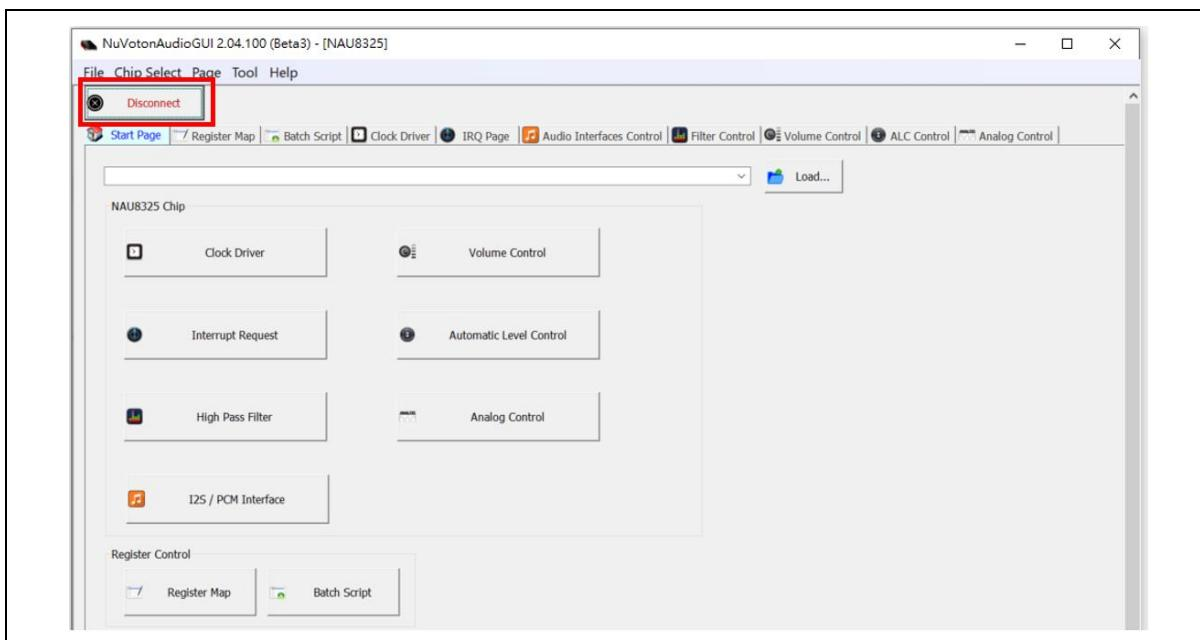

Figure 3-7 NuvotonAudioGUI Operating Step (4)
4. If the red [Disconnected] appears on the upper left corner of the NuvotonAudioGUI window, as shown Figure 3-7, check if the hardware configuration is correct.